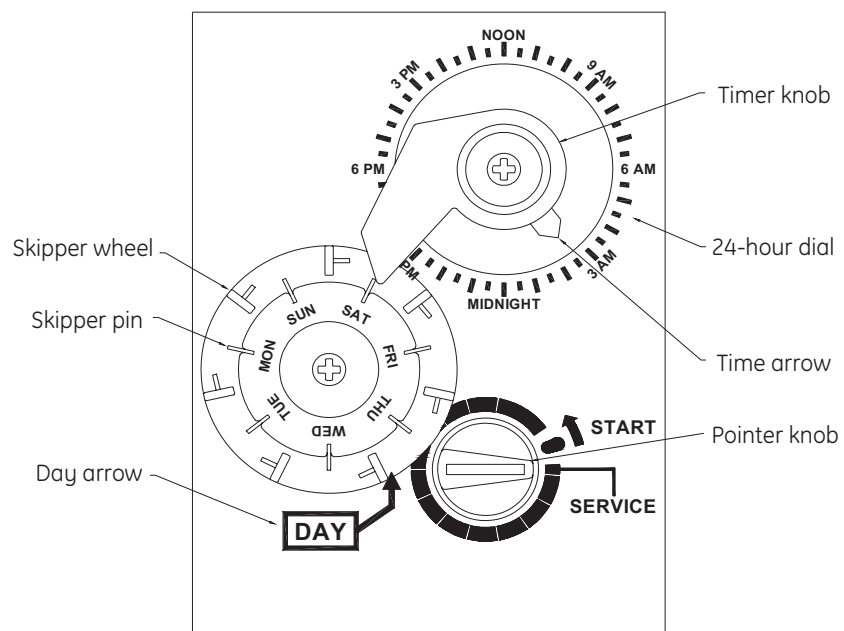
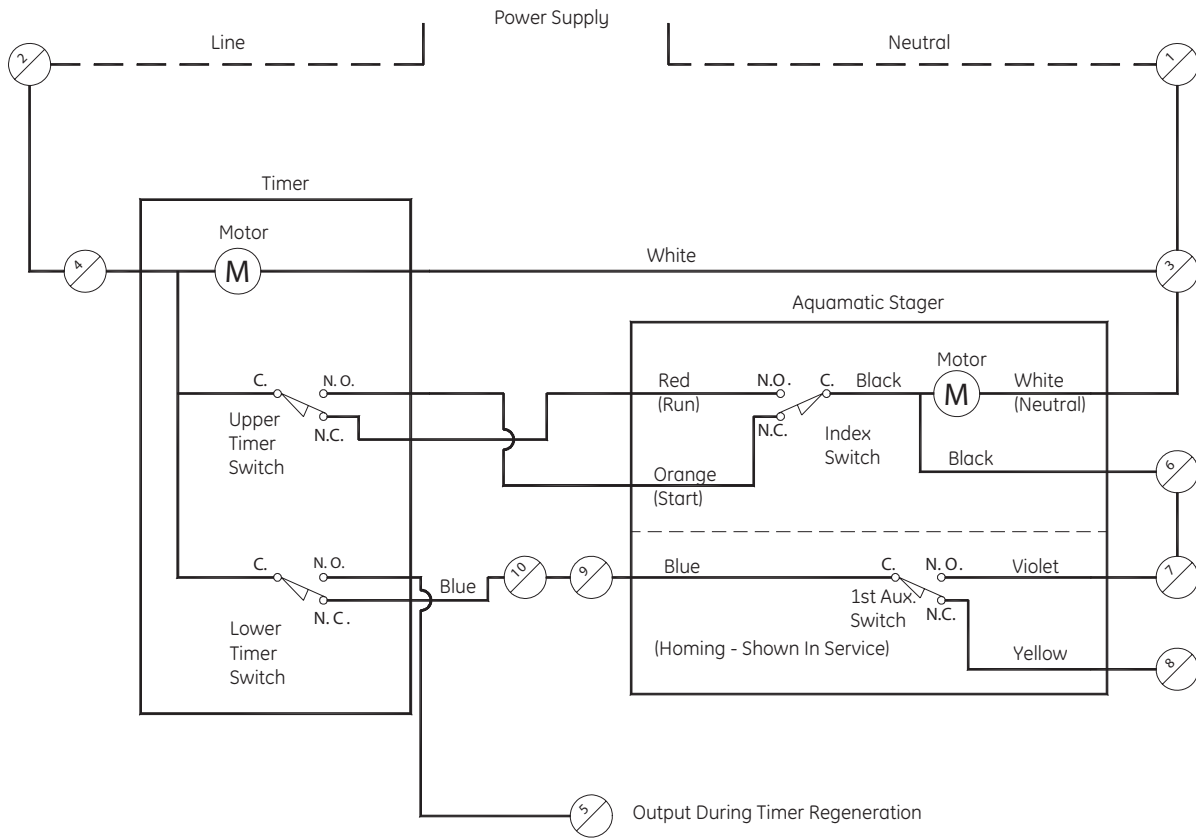

Figure 2 A100 Timer Faceplate
Figure 3
1. Pull all skipper pins outward away from dial face (see Figure 2).
Open enclosure. Depress RED BUTTON and turn counterclockwise to the START position (see Figure 2).
Timer and Stager are out of sequence.	<ul style="list-style-type: none"> • Check that the number of pins that are in the “UP” position on the timer pinwheel (Figure 2), match EXACTLY the number of notches in the stager cam assembly • Make sure that there are no wires coming in contact with the pinwheel assembly. • Manually rotate the stager assembly to the “Service” position. Then, check the operation of the timer pinwheel assembly by depressing and then releasing the micro-switch located on the pinwheel. You can repeat this for each step of the regeneration cycle to ensure that the stager and timer are working properly. • Verify the connections of the “Homing” feature. (If Applicable, See Figures 3 and 4)
Stager does not advance automatically,	<ul style="list-style-type: none"> • Manually rotate the stager assembly approximately 1/4 inch. The stager motor should take over the operation and advance the stager to the next step. The “Homing” feature will return the stager to the “Service” position automatically. • Verify that all wiring connections are made correctly. (See Figures 3 and 4) • Check that the correct voltage and frequency are being used as specified for the control.